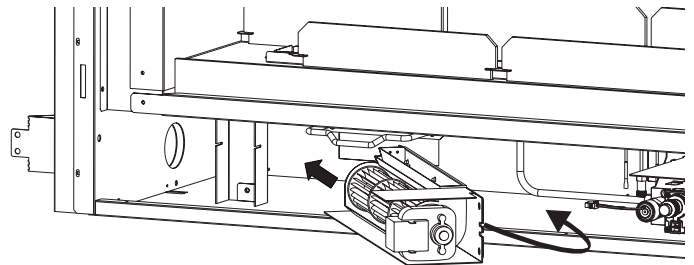
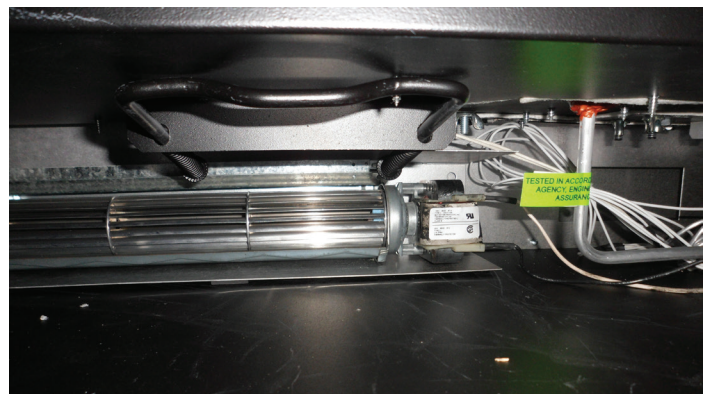

Figure 1
Figure 2
3. Insert the blower assembly past the firebox support leg with the motor portion angled to the front of the fireplace. **See Figure 1.** Slide the blower past the supply tubing to position the blower along the back wall of the fireplace back in the open space along the left side of the fireplace. **See Figure 2.**